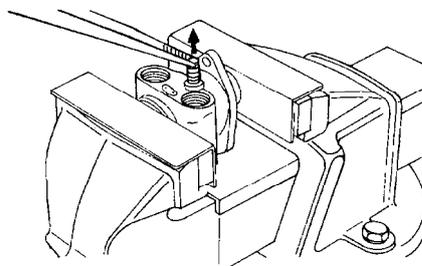

Figure 127 Removing the Check-valve
- c. Remove the adapter and, using long-nose pliers, lift out both check-valves and springs (Figure 127). Remove and discard the O ring.